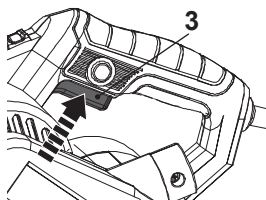

Fig. 13
1. Switch the product on by pressing the on/off switch (3) (Fig. 13).